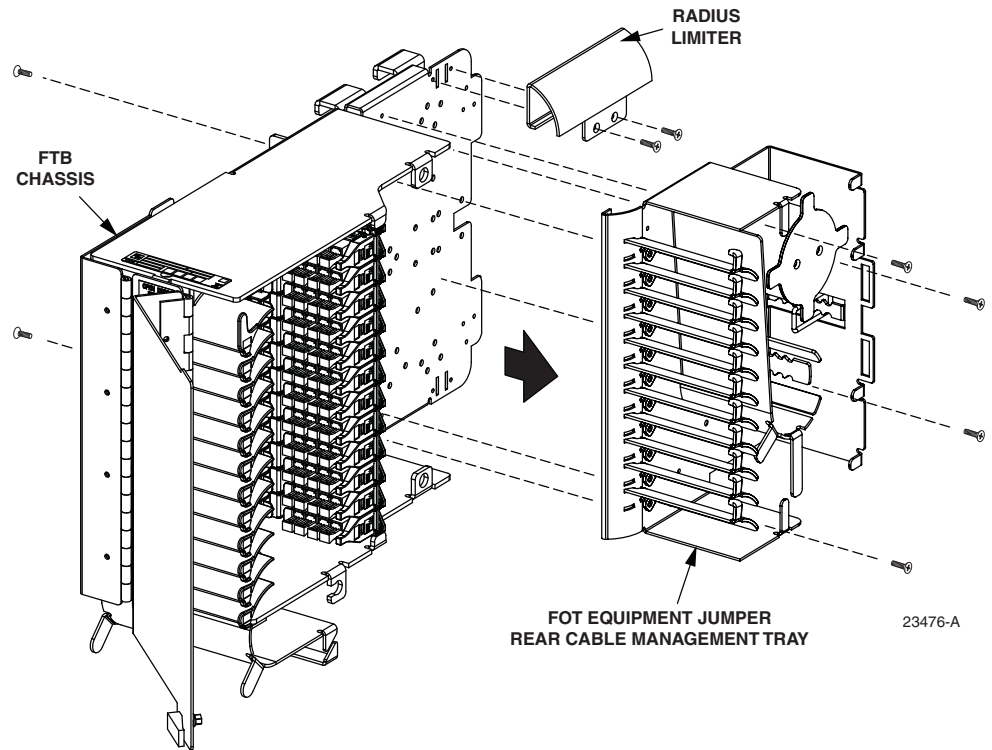
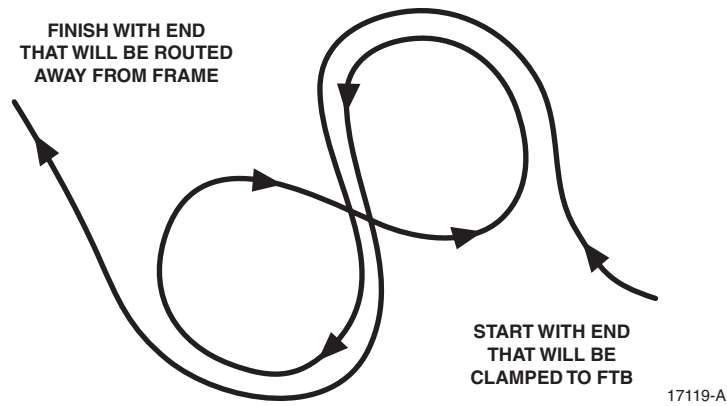

Figure 8. Removing Radius Limiter and FOT Equipment Jumper Rear Cable Management Tray
Figure 13. Storing Cable Using Figure 8 Pattern
1. Remove the rear radius limiter and FOT equipment jumper rear cable management tray from the FTB chassis, as shown in Figure 8. To remove the tray, remove the six #4-40 Phillips head screws shown in the figure.
If the cable will be routed and installed after it is clamped to the FTB, remove the cable from its spool and then coil it up in a figure 8 pattern as shown in Figure 13, starting with the end that connects to the FTB. Make sure the end of the cable that does not connect to the FTB is coiled last.